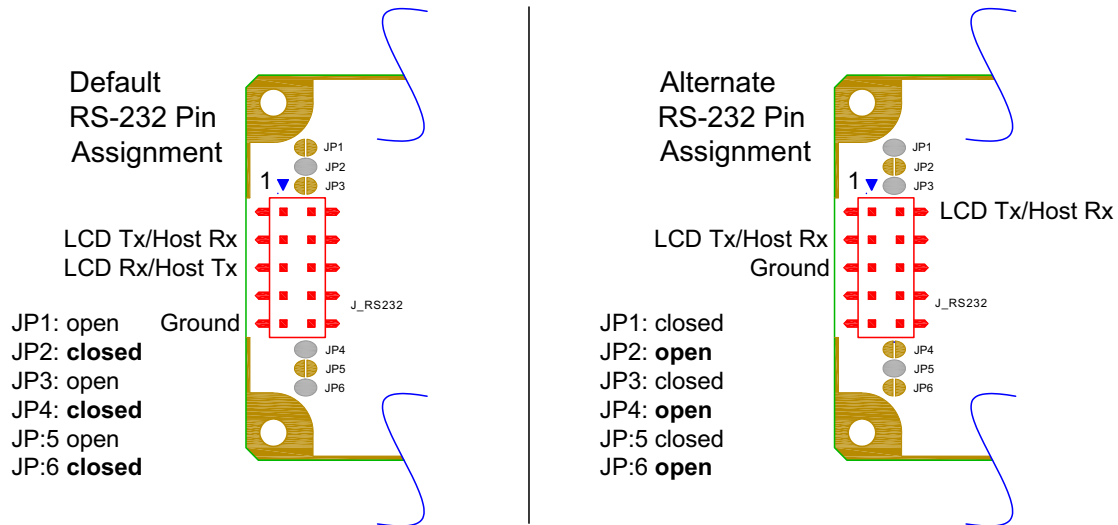

Figure 15. J\_RS232 Default and Alternate Pin Assignments
3. If the “Default RS232 Pin Assignments” (see Figure 15. on Pg. 30) are selected, the five connections needed to operate the display module are all on a single column of pins on J\_RS232. You can connect a single 0.1-inch spacing 5-conductor cable to connect between the CFA533-TMI-KL and your host.
JP2, JP4, and JP6 are closed at the factory, selecting the "Default RS232 Pin Assignments" (see Figure 15. on Pg. 30). This connection allows a low-cost ribbon cable (CrystalFontz WR-232-Y08) to connect the CFA533-TMI-KL to a host's DB-9 COM port.